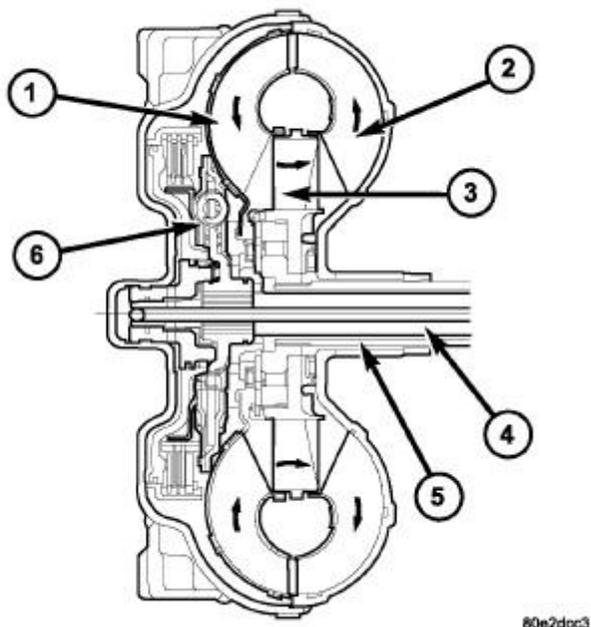

Fig. 208: Cutaway View Of Torque Converter
The torque converter is a hydraulic device that couples the engine crankshaft to the transmission. Refer to **Fig. 208**. The torque converter consists of an outer shell with an internal turbine (1), a stator (3), an overrunning clutch, an impeller (2), and an electronically applied converter clutch. The converter clutch provides reduced engine speed and greater fuel economy when engaged. Clutch engagement also provides reduced transmission fluid temperatures. The converter clutch engages in third through fifth gears. The torque converter hub drives the transmission oil (fluid) pump.